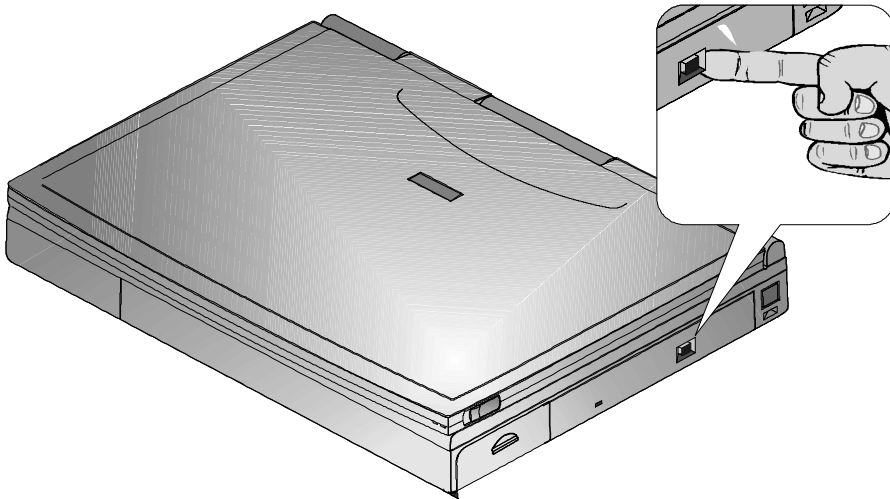

Figure 6-7: Manually Ejecting the CD-ROM Tray
To load a disc into the CD-ROM module, please refer to Figure 6-7 and the following instructions.
1. Press the eject button. The tray ejects from the drive. (Figure 6-7)